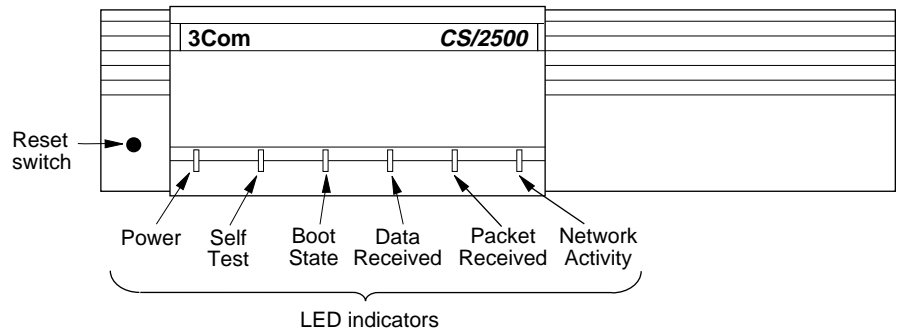
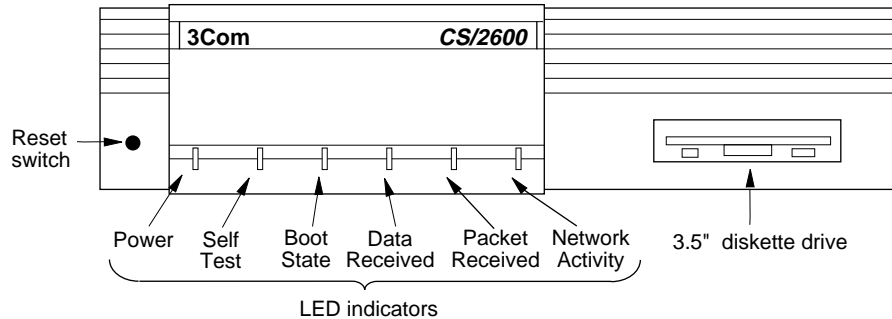

Figure 1-3 CS/2500 Front Panel
Figure 1-4 CS/2600 Front Panel
The front panel has six LED indicators and a reset switch. Figure 1-3 shows the front panel of the CS/2500 diskless server. Figure 1-4 shows the front panel of the CS/2600, which includes a 3.5-inch diskette drive. The front panel label shows the model number, providing easy identification in mixed environments.
- Reset Switch** The reset switch is located at the lower left corner of the front panel (see Figure 1-3 and Figure 1-4). It is recessed to protect it from being pressed unintentionally. Pressing the reset switch interrupts normal operation, reinitializes the server, begins the startup sequence, and purges server RAM in the same way as toggling the power switch. The Self Test LED lights as the server executes self-test diagnostics. The Boot State LED lights as the server boots from its software diskette or the network.
- CS/2600 Internal Diskette Drive** Model CS/2600 includes a 3.5-inch, 135-tpi diskette drive located on the right side of the front panel (see Figure 1-4). The drive can accommodate 1 MB or 2 MB unformatted capacity (720 KB or 1.44 MB formatted) diskettes. This drive is used for booting system software and for performing memory dumps following a server failure. The diskette is also used during operation to maintain software configuration information.